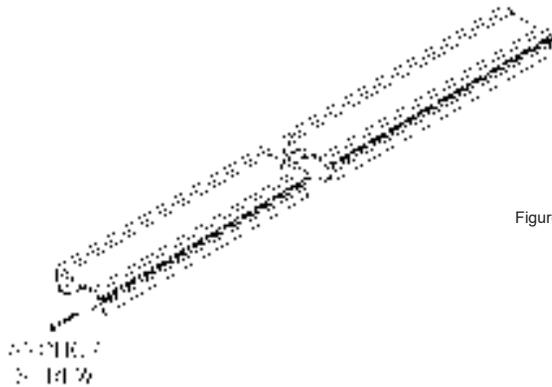

Figure 30
e. Pull the seal flush with the end of the slat. Install the anchor screw (Figure 30). Do not tighten the anchor screw too tightly. Allow the adhesive to dry before finishing the installation of the slat.